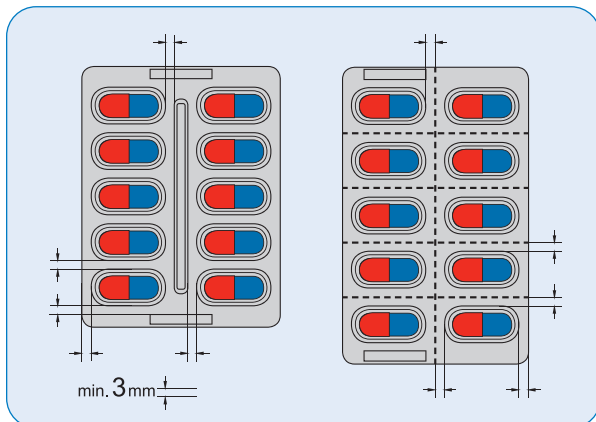

Figure 7A
- Strengthening ribs or elements⁷ to reinforce the blister flatness may be designed into the blister card to make cartoning easier (Figures 7A and 7B).
- When designing the layout for blister cards made with Aclar laminate, the reinforcing ribs work best when designed perpendicular to the machine direction (MD). The ribs should have a width to depth ratio between 2:1 and 3:1 to avoid under forming. Sufficient air evacuation ports must also be included in the rib design to achieve full forming.
- The recommended minimum seal flange width is 3 mm (Figures 7A and 8). If the blister card size does not allow for this; contact a Honeywell technical representative to discuss your options for maintaining a quality, tight seal. Honeywell will coordinate with you and your tooling supplier to recommend sealing alternatives for your blister card.